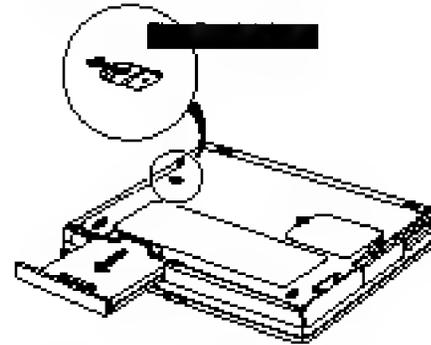

Figure 11. Removing a Device from the Flex-Bay
3. Pull up on the Flex-Bay latch and pull the device from the bay (Figure 11.)